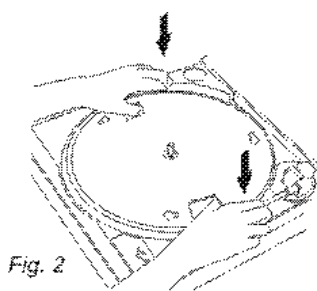

Fig. 2
- 2 Set up the turntable on a plane, stable ground and place the turntable platter on the axle of the turntable (Fig. 2).